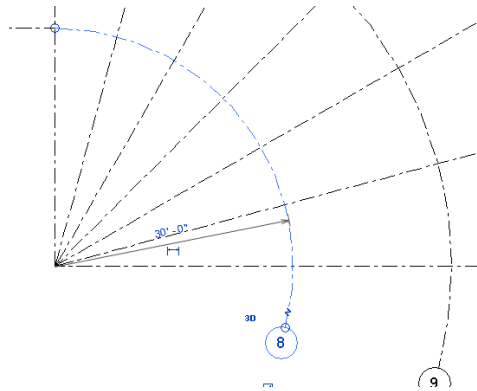

Figure 3-64 Selecting the curved line to rename
1. To rename grids, select the curved grid, as shown in Figure 3-64.